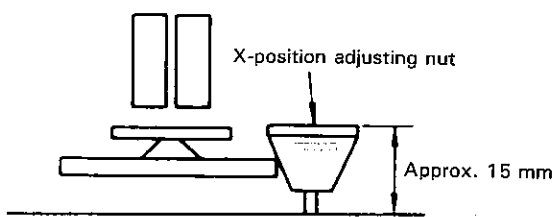

Figure 1-27.
- f. Push the (+) and (-) tracking buttons at the same time to set the tracking buttons to the preset mode, and rotate the X-position adjusting nut shown in Fig. 1-27 with the special bladed screwdriver for maximum switching pulse low side envelope, and then adjust the A/C head position. Now adjust the play back switching point to $6.5 \pm 0.5H$. Check the flatness of envelope and sound by selfrecording.